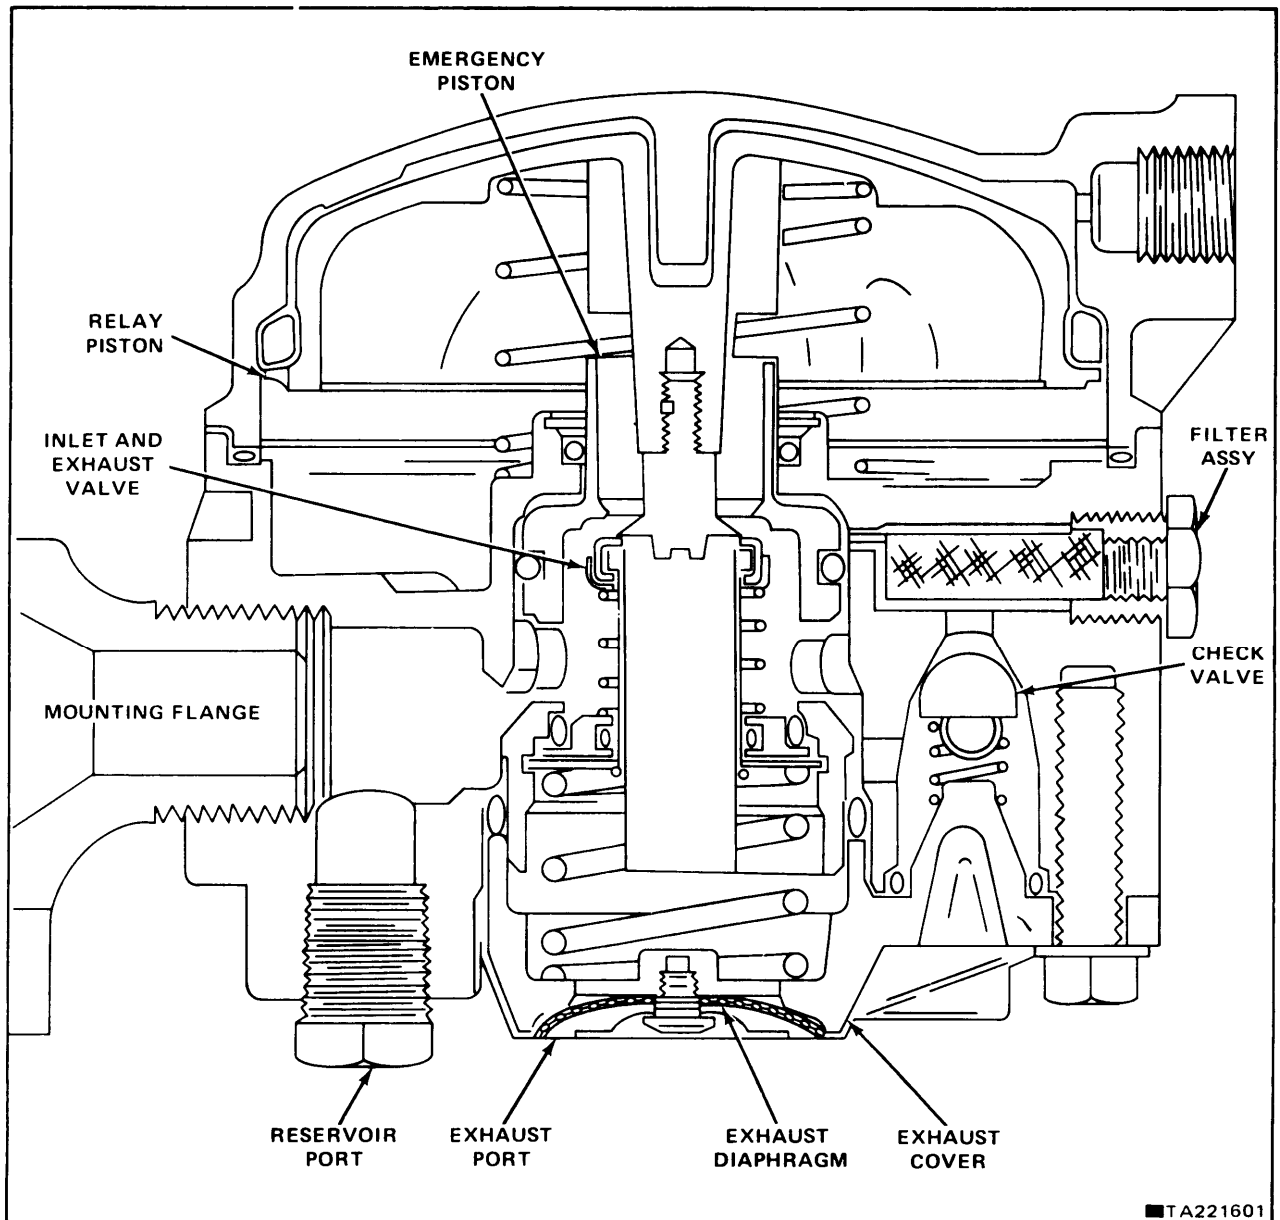

FIGURE 7-2. RE-6 RELAY EMERGENCY VALVE.
**7-5. RELAY EMERGENCY VALVE RE-6 (see figure 7-2).**